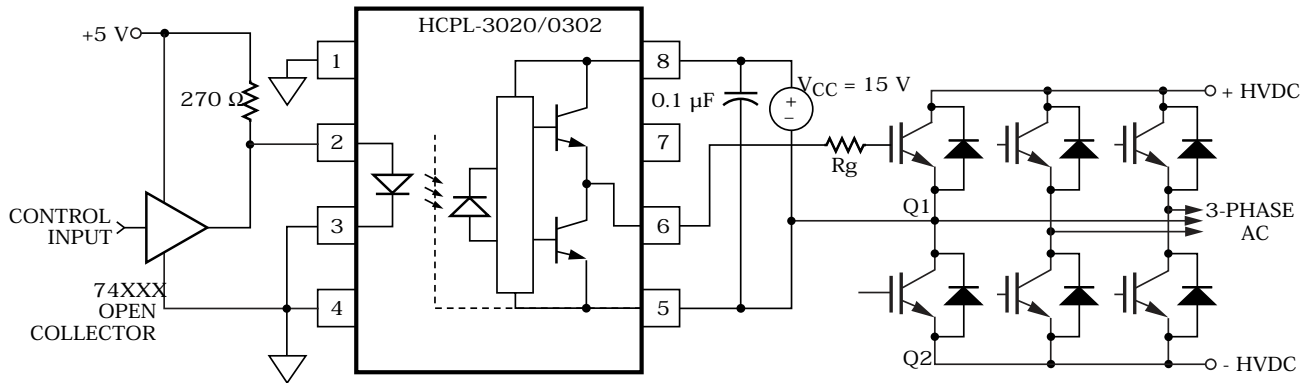
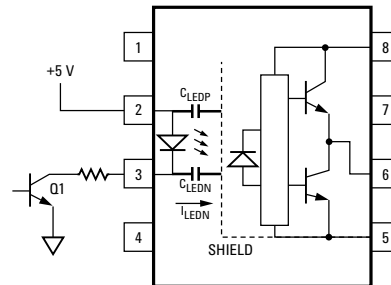

Figure 17. Recommended LED drive and application circuit for HCPL-3020 and HCPL-0302.
Figure 22. Not recommended open collector drive circuit.
To keep the IGBT firmly off, the HCPL-3020 and HCPL-0302 have a very low maximum  $V_{OL}$  specification of 1.0 V. Minimizing  $R_g$  and the lead inductance from the HCPL-3020 or HCPL-0302 to the IGBT gate and emitter (possibly by mounting the HCPL-3020 or HCPL-0302 on a small PC board directly above the IGBT) can eliminate the need for negative IGBT gate drive in many applications as shown in Figure 17. Care should be taken with such a PC board design to avoid routing the IGBT collector or emitter traces close to the HCPL-3020 or HCPL-0302 input as this can result in unwanted coupling of transient signals into the input of HCPL-3020 or HCPL-0302 and degrade performance. (If the IGBT drain must be routed near the HCPL-3020 or HCPL-0302 input, then the LED should be reverse biased when in the off state, to prevent the transient signals coupled from the IGBT drain from turning on the HCPL-3020 or HCPL-0302.
**Step 1:** Calculate  $R_g$  minimum from the  $I_{OL}$  peak specification. The IGBT and  $R_g$  in Figure 17 can be analyzed as a simple RC circuit with a voltage supplied by the HCPL-3020.
where  $K_{I_{CC}} \cdot Q_g \cdot f$  is the increase in  $I_{CC}$  due to switching and  $K_{I_{CC}}$  is a constant of 0.001 mA/(nC\*kHz). For the circuit in Figure 17 with  $I_F$  (worst case) = 10 mA,  $R_g = 57.5 \Omega$ , Max Duty Cycle = 80%,  $Q_g = 100$  nC,  $f = 20$  kHz and  $T_{AMAX} = 85^\circ\text{C}$ :
perturbations in the LED current during common mode transients and becomes the major source of CMR failures for a shielded optocoupler. The main design objective of a high CMR LED drive circuit becomes keeping the LED in the proper state (on or off) during common mode transients. For example, the recommended application circuit (Figure 17), can achieve  $10 \text{ kV}/\mu\text{s}$  CMR while minimizing component complexity.
The open collector drive circuit, shown in Figure 22, cannot keep the LED off during a  $+dV_{CM}/dt$  transient, since all the current flowing through  $C_{LEDN}$  must be supplied by the LED, and it is not recommended for applications requiring ultra high CMR1 performance. The alternative drive circuit, which like the recommended application circuit (Figure 17), does achieve ultra high CMR performance by shunting the LED in the off state.